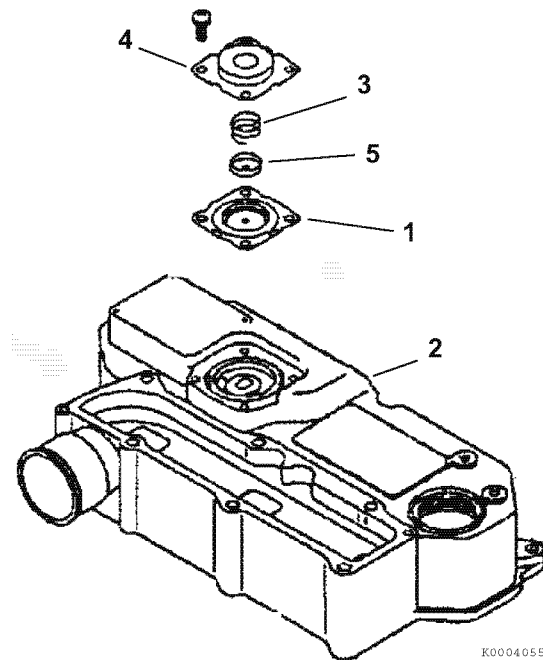

Figure 5-15
The TNV engines use a crankcase breather system that has a spring-backed diaphragm (1, **Figure 5-15**) in the valve cover (2, **Figure 5-15**). When the crankcase pressure reaches a predetermined value, the diaphragm opens a passage that allows crankcase fumes to be routed to the intake manifold.
To inspect the diaphragm and spring (3, **Figure 5-15**):
1. Remove the bolts retaining the diaphragm cover (4, **Figure 5-15**).
2. Remove the diaphragm cover, spring, diaphragm plate (5, **Figure 5-15**) and diaphragm.